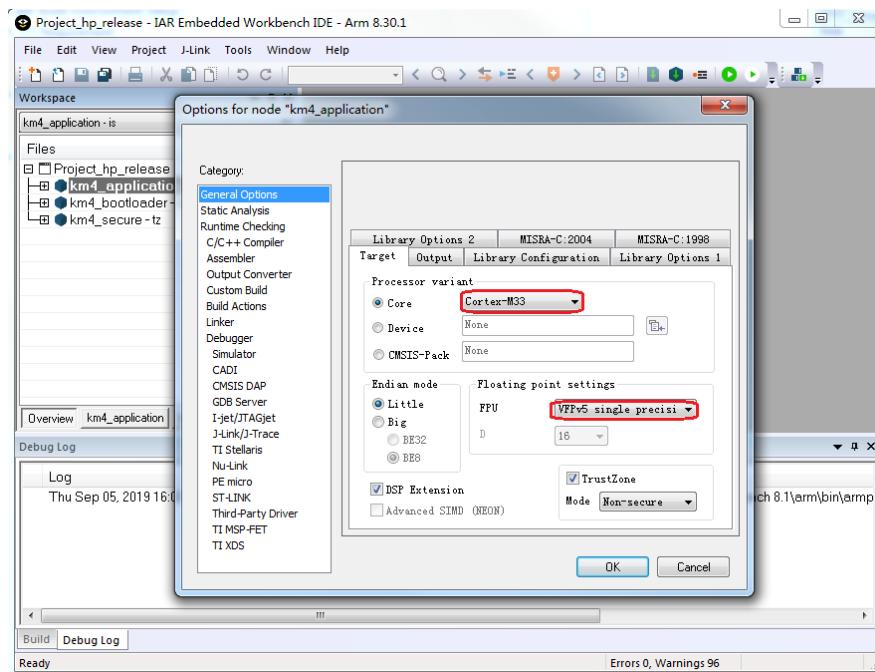

Fig 6-9 KM4 processor options
- (1) Open **project\realtek_amebaD_va0_example\EWARM-RELEASE\Project_hp_release.eww**.
- (2) Refer to 6.3.1 and choose the build configurations for each project according to your application.
- (3) Click **Project > Options, General Options > Target > Processor Variant > Core**, verify the CPU configurations according to Fig 6-9.